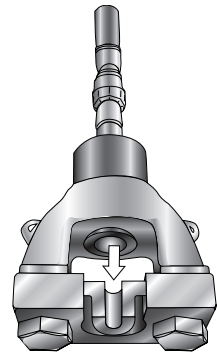

Figure 44
2. Insert "U-shaped" Nut Die into the back-up plate of the Hydraulic Ram as shown in Figure 44.